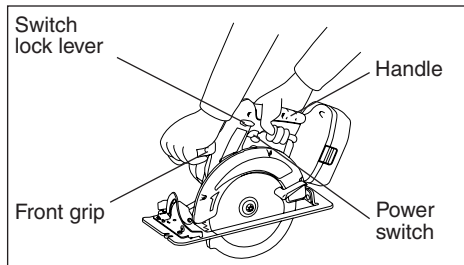

Fig. 4
Hold the wood saw with both hands. (See Fig. 4)
- Always hold the handle with one hand and the front grip with the other. (See Fig.4) Maintain a firm grip and depress the switch fully.